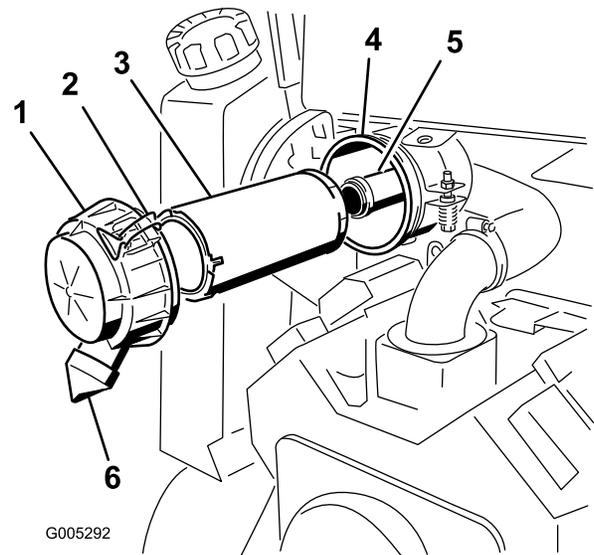

Figure 20
2. Release the latches on the air cleaner and pull the air cleaner cover off of the air cleaner body (Figure 20).
- Gently slide the primary filter out of the air cleaner body and discard it (Figure 20). Avoid knocking the filter into the side of the body.
- If you are also replacing the safety filter, gently slide it out of the air cleaner body and discard it (Figure 20).. Avoid knocking the filter into the side of the body.
- If you are replacing the safety filter, carefully slide it into the air cleaner body (Figure 20).. Ensure that it is fully seated by pushing firmly on the outer rim of the filter while installing it.
- Carefully slide the primary filter into the air cleaner body (Figure 20).. Ensure that it is fully seated by pushing firmly on the outer rim of the filter while installing it.
- Install the cover, spacer and secure it with the cover nut (Figure 20). Torque the nut to 95 inch-lb (11 N-m).
- Install the air cleaner cover with the rubber outlet pointing down in a 5:00 to 7:00 position (viewed from the end)(Figure 20) and secure it with the latches..